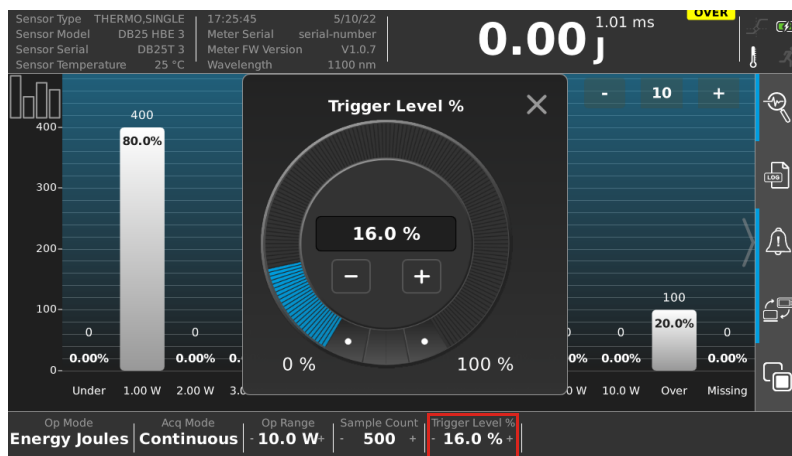

Figure 6-23. Trigger Level Setting
- a.) Press **Trigger Level%** in the bottom button bar. Refer to Figure 6-23.